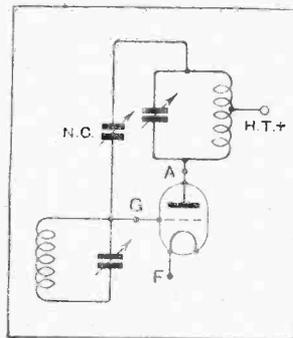
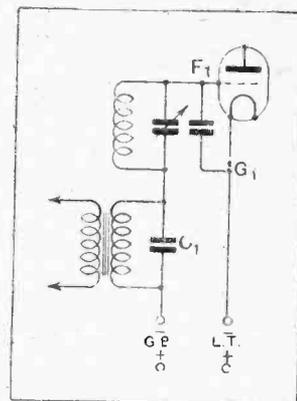
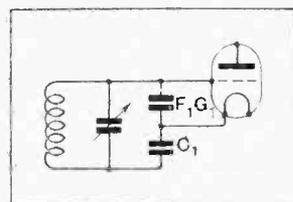

Fig. 2.—Neutralised tuned anode coupling.
Fig. 3.—Grid circuit with lumped capacity $F_1 G_1$.
Fig. 4.—Rearrangement of circuit in Fig. 3 to show relation of essential capacities.
mands that the windings P and Sn shall be oppositely wound or oppositely connected; thus the paths (2) and (3) are jointly non-inductive from G to earth. If neutralised tuned anode is used, as in Fig. 2, the same reasoning holds good, as AG and NC come at the opposite ends of a centre tapped coil. We may, therefore, consider all these capacities as one big capacity between grid and earth. This brings us to Fig 3, where $F_1 G_1$ represents the lumped capacity. By rearrangement and the omission of non-essentials we obtain Fig. 4, which shows clearly that the capacity $F_1 G_1$ and the condenser C_1 are in series across the input circuit, and that we can only make use of the volts drop across $F_1 G_1$. Since we cannot obtain all the available input (a change of connections to an unsound arrangement excepted), it will be necessary to compromise. The author has decided that if 90 per cent. of the H.F. input reaches the valve there is little cause for complaint. On two H.F. stages this means that 90 per cent. of 90 per cent. = 81 per cent.